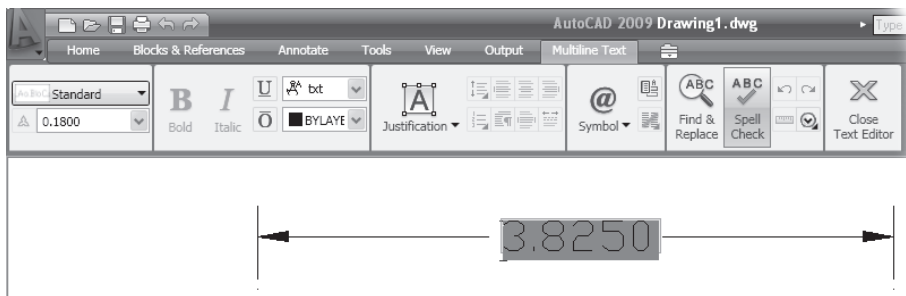

Figure 10.20
2. Click the dimension whose value you want to edit. The Multiline Text tab (see Figure 10.20) appears with the current dimension value highlighted in the Text panel.